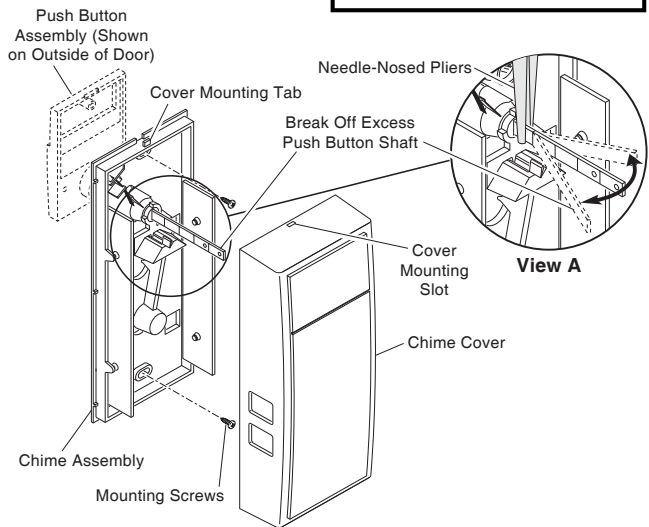

Figure 2 - Mounting Chime Assembly and Attaching Chime Cover
1. Position chime assembly over push button shaft (see Figure 2).
3. Attach the top and bottom of chime assembly securely using mounting screws provided (see Figure 2).
1. To insure proper clearance when the cover is attached, break off the excess push button shaft. **IMPORTANT:** To avoid breaking plastic chime assembly parts, use needle-nosed pliers to hold shaft securely while bending shaft back and forth to remove (see Figure 2, View A).